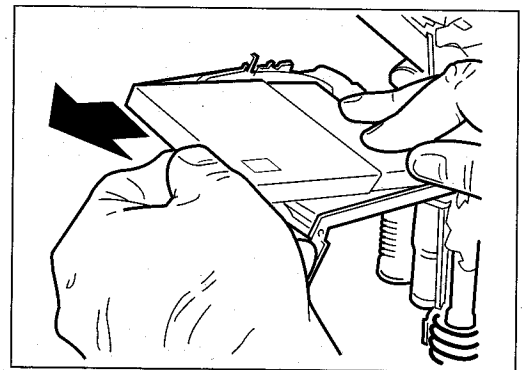

Figure 33
3. Slide the box cover off slowly, leaving the liner and primers on the tray, Figure 33.